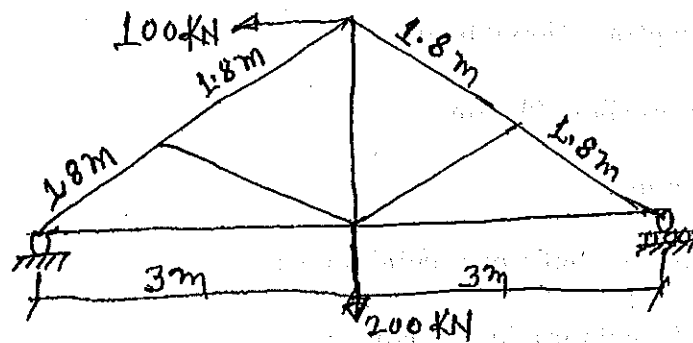

Fig. 1
- b) By method of sections, analyze the plane-truss shown in Fig. 1 and also, tabulate the member forces developed in it. (12+4)